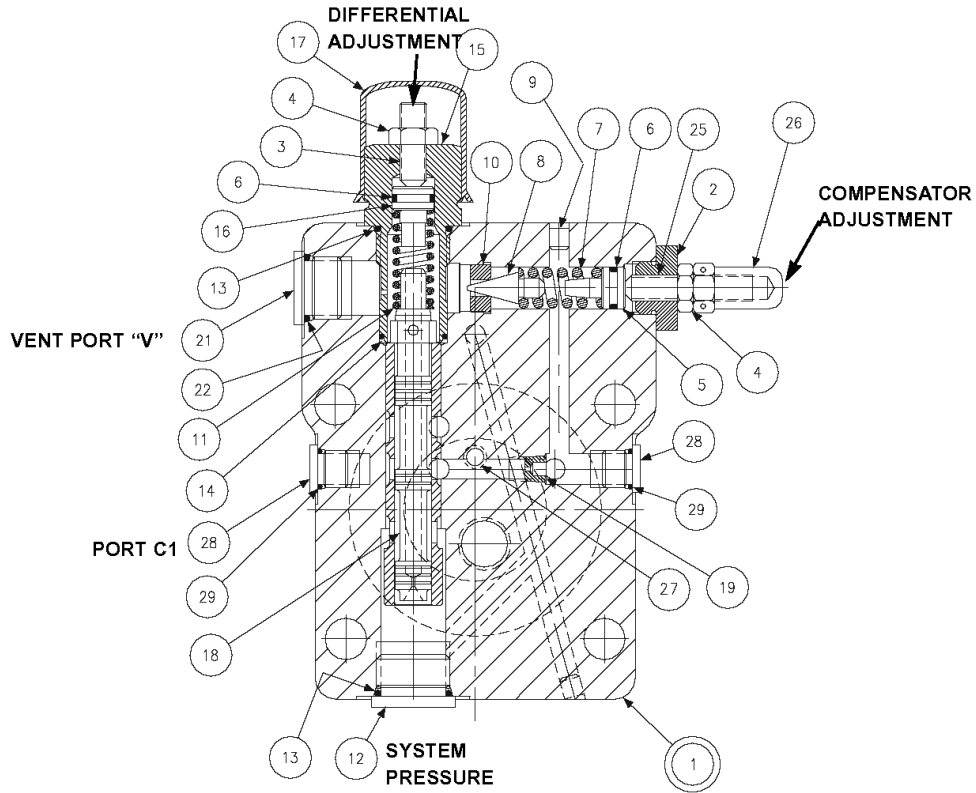
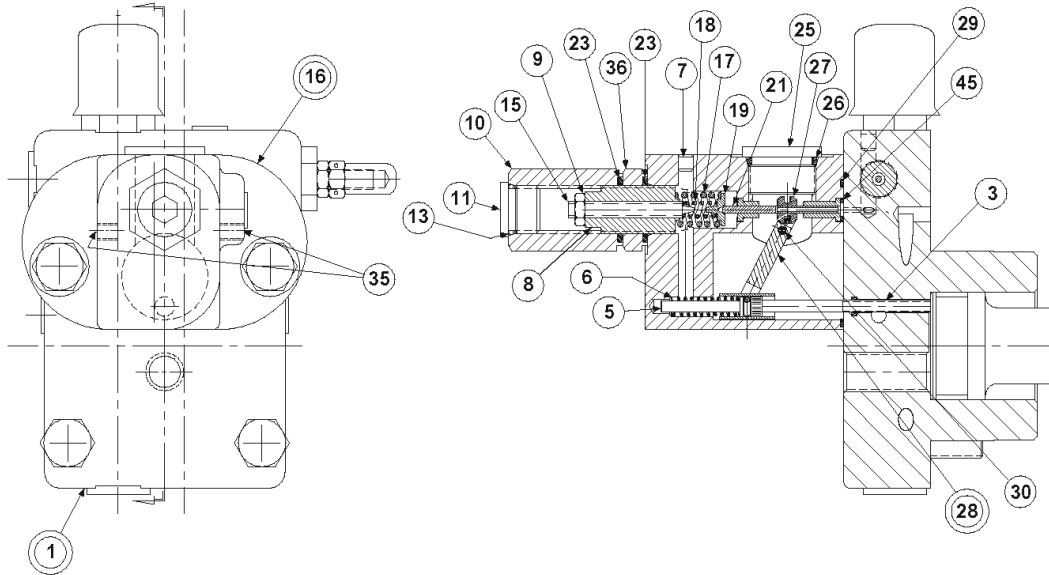

FIGURE 10
FIGURE 11
PARTS LIST FOR FIGURE 10
PARTS LIST FOR FIGURE 11
1. See Figure 11. Remove 2 screws holding torque limiter body (16) to cap assembly (1).
2. Remove all parts from torque limiter body (16) except pin (30) and arm assembly (28). It is not necessary to remove these parts unless broken or worn. Examine parts for wear or damage.
3. Remove screw (3). Examine head for excessive wear, and body for smooth sealing surface with O-ring.
5. Remove cap assembly (1).
6. See Figure 10. Remove plug (15) and attached parts. Remove spring (11) and spool (18).
7. Remove adjusting plug (2) and attached parts. Remove spring (7) and cone (8).
8. Do not remove sleeve in body (1). Sleeve is pressed into cap and finished to size. If sleeve or cap is worn, replace the cap-sleeve assembly (1).
9. Examine seat (10) for wear. Do not remove unless damaged.
1. See Figure 10. Install Avseal plugs (9) and .047", 1,19 mm. orifice (19) in body.
2. Press seat (10) into bore squarely against shoulder in bore.
3. Install spool (18) into bore as shown. Install spring (11) over end of spool. Install O-ring (6) on seal piston (16). Lubricate and install into plug (15). Install plug (15) into cap. Install screw (3), nut (4) and acorn nut (17). Install plug (12), (21) and (28). Torque plugs.
4. Install O-ring (6) on seal piston (5). Lubricate O-ring and install cone (8), spring (7) and seal piston (5) into bore in cap (1), being careful that cone enters seat (10). Install adjusting plug (2), screw (25), nut (4) and acorn nut (26).
5. Carefully install O-ring (27) in the cap.
8. See Figure 11. Apply thread locking compound on threads of screw (3), lubricate the shank, thread through the cap into the control piston, and torque to 5 lb.*ft., 6,8 Nm
10. Press dowel (30) into body (16), through the link assembly (28), to 1/4", 6,35 mm below surface. Apply hydraulic sealant to threads of screws (35) and install over dowel (30).
11. While sleeve (27) is engaged into dowel on link (28), slide spool (21) into bore of body (16), and through sleeve (27). Spool (21) must move freely and easily at all positions of the link (28).
12. Assemble remaining parts per drawing. While spring retainer is engaging clevis pin (5) under dowel of link (28), slide the other opening of spring retainer over the top of the screw (3). Attach body assembly (16) to cap (1) and torque screws to 75 lb.*ft., 102 Nm.